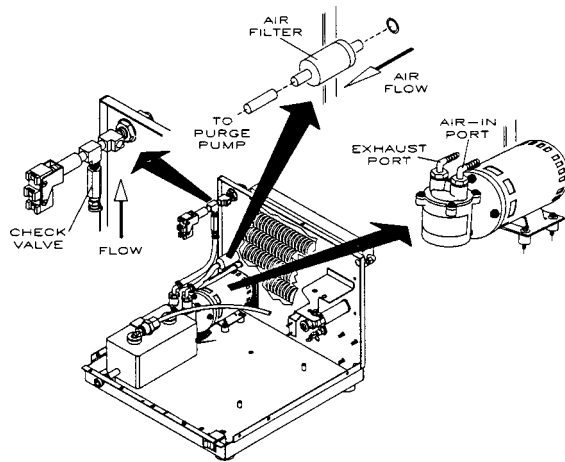

Figure 21: Chemipurge Components
Check that the pump mountings are snug (see Figure 21). Tighten if needed.
To replace the air filter, disconnect tubing (from Purge Pump), install replacement air filter in the correct direction, and reconnect tubing (see Figure 21).
3. If the check valve continues to leak under pressure, replace it (see Figure 21).